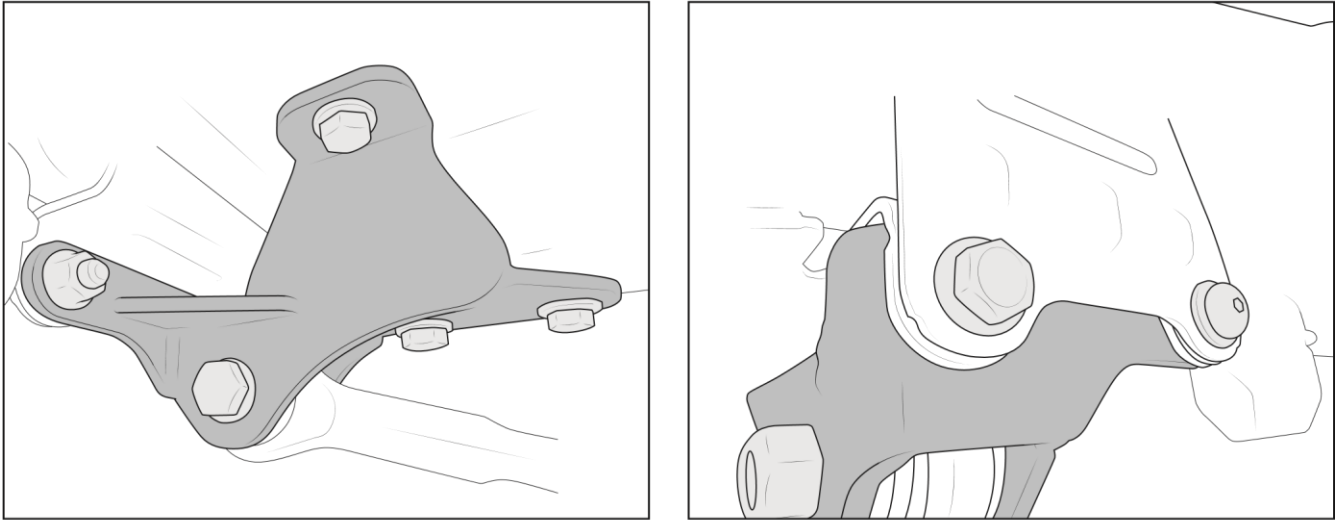

Figure 23
B. Install AEV supplied frame bracket (fig. 23). Reuse factory hardware into the frame weld nuts. In vertical frame flange, reuse factory bolt with AEV supplied nut **ONLY** at front location. At rear bolt hole, use AEV supplied M16 button head bolt and nut. Install bolt from outside of bracket. Starting with vertical bolts, torque M14 to 118 ft-lbs. Torque M16 button head to 140 ft-lbs.